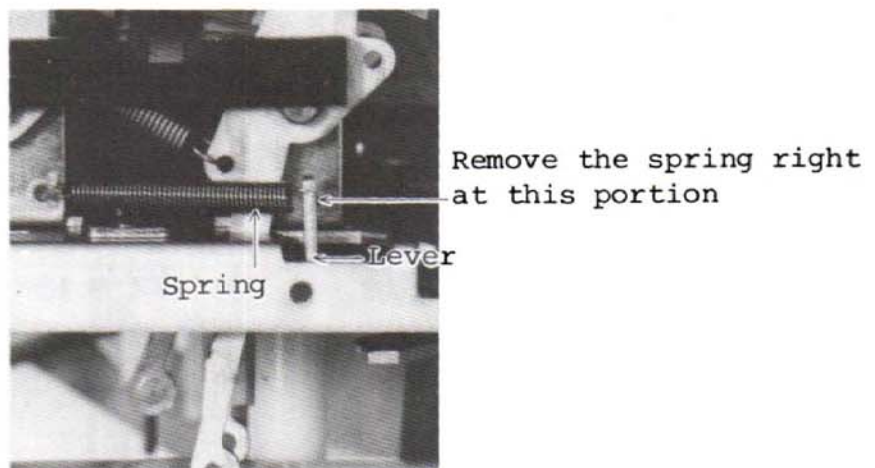

Fig. 10
- h. Remove the spring shown in Fig. 10 on the lever side.